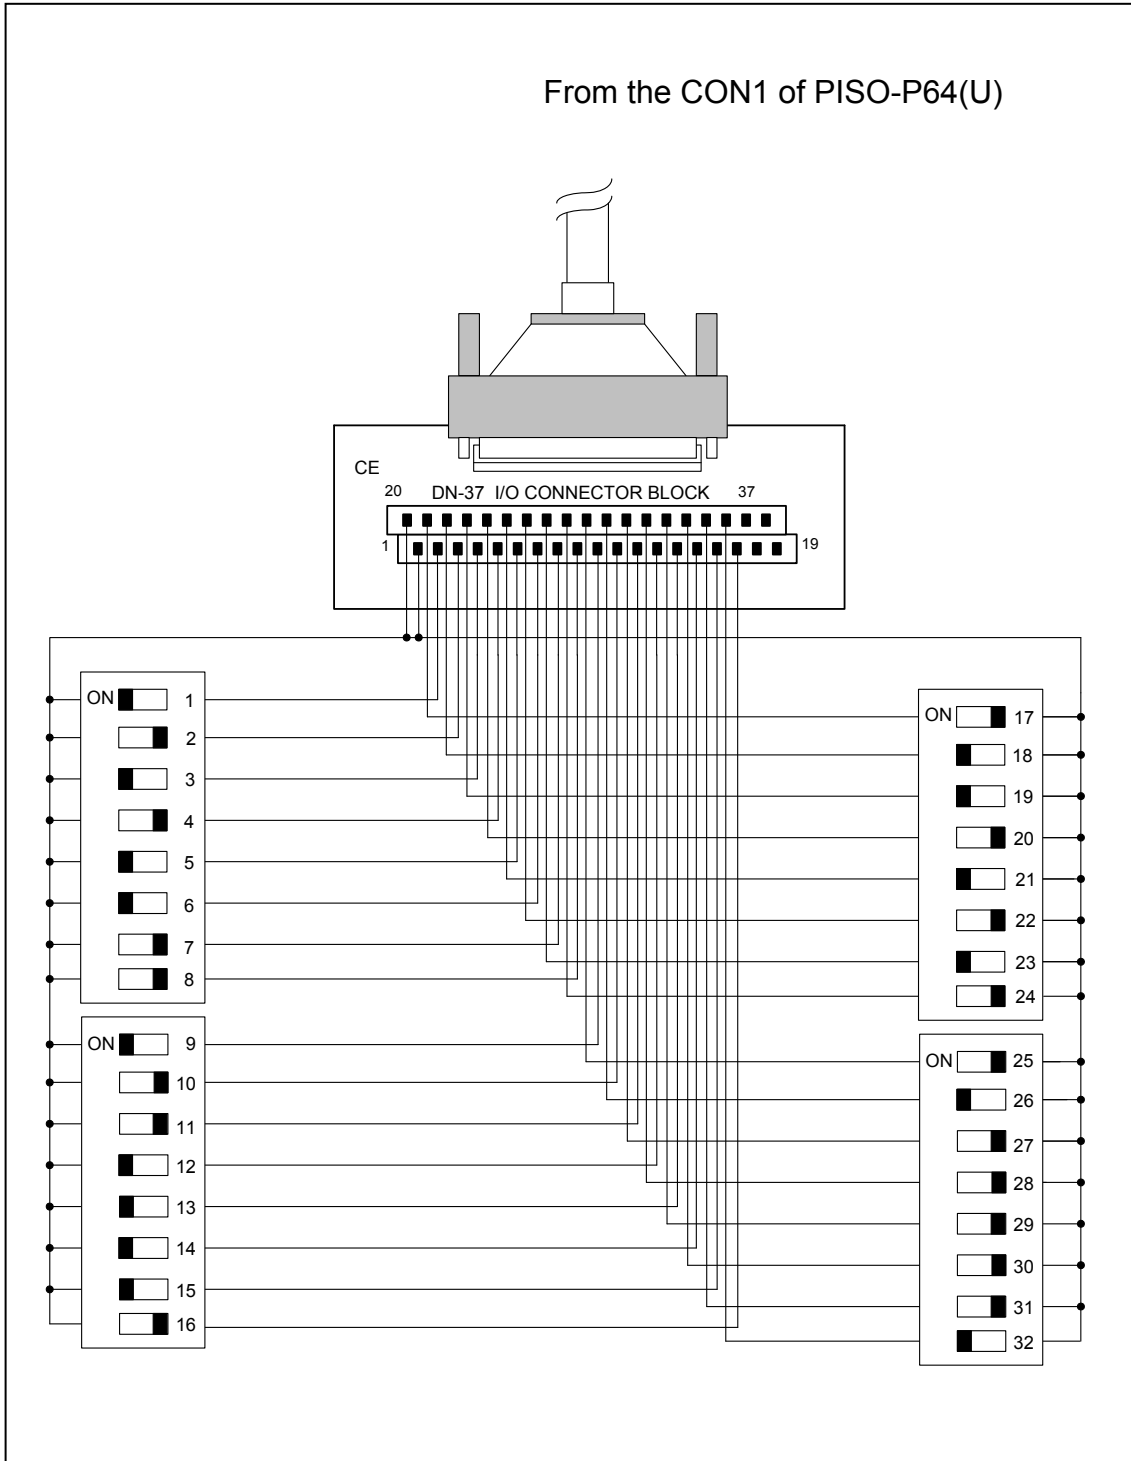

Figure 4-2-2. The circuit diagram of external device 2 for the digital inputs of PISO-P64(U)
- Refer to Figure 4-2-2 for the circuit diagram of external device 1